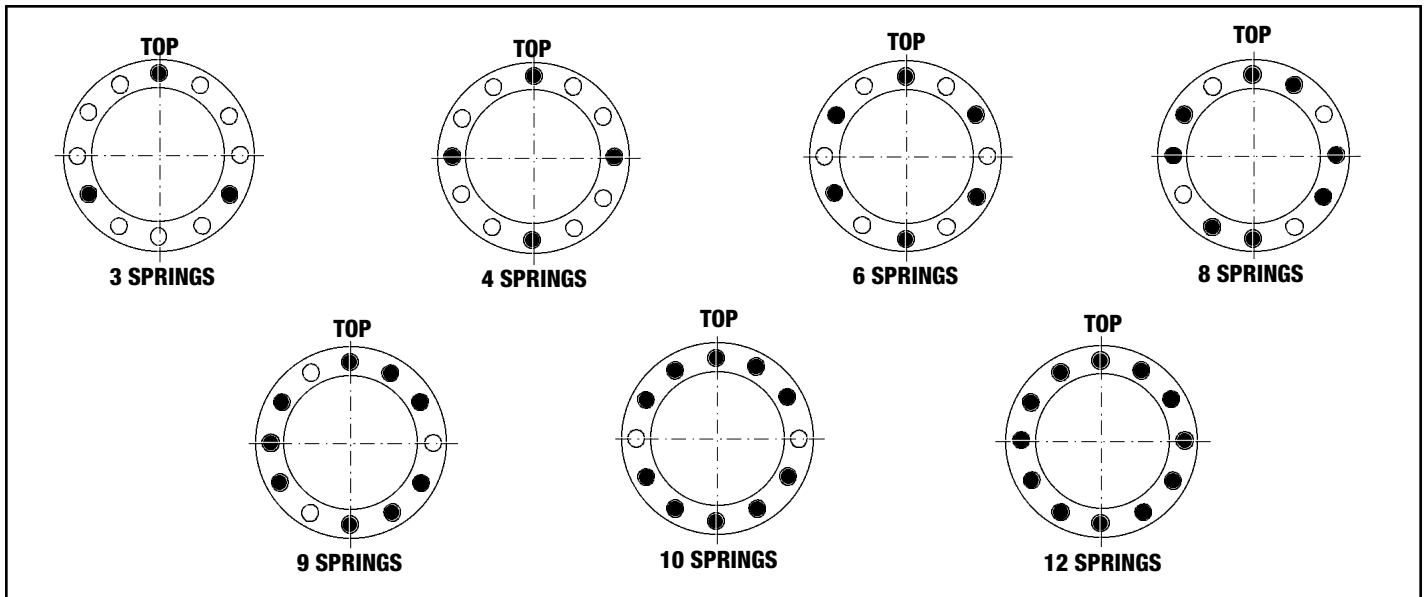

Figure 5.2 - Small E-Stop Brake Spring Placement
8. Lay the brake with the Piston Housing (#8) in an up position. Lift the Piston Housing (#8) off the End Housing (#16). Make a sketch of the placement of the Springs (#40). This will help at Reassembly. Remove the Springs (#40). **Correct spring placement is also shown in Figure 5.2 for torque adjustment in the field.**
9. Remove the (3) Screws (#65) and (3) Lockwashers (#73) from the Thrust Plate (#5) and separate the Thrust Plate (#5) from the Piston (#3). Push the Piston out of the Piston Housing (#8).
10. If the Piston Seals need replaced then pry the Liner (#51) and (2) O-Rings (#44) out from the Piston (#3). Remove the Liner (#50) and O-Ring (#43) from the Piston Retainer (#8).
4. Place the correct number of Springs (#40) over the Pins (#54) in the End Housing (#16) for your desired Torque. See Figure 5.2 for correct spring placement. White grease can be used to hold them in place.
5. Attach the End Housing (#16) to the Piston Housing (#8) with the (6) Lockwashers (#74) and (6) Screws (#66). Tighten in an even manner to compress the springs properly. **Torque to 25 Ft. Lbs.**